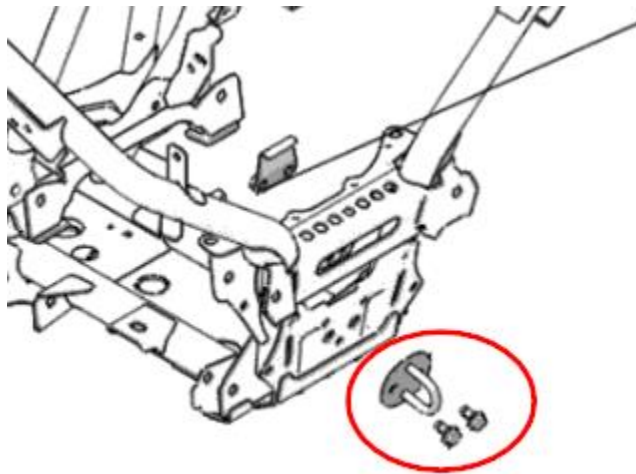

Figure 3
2. Remove the two bolts securing the tow hook as shown in Figure 3.